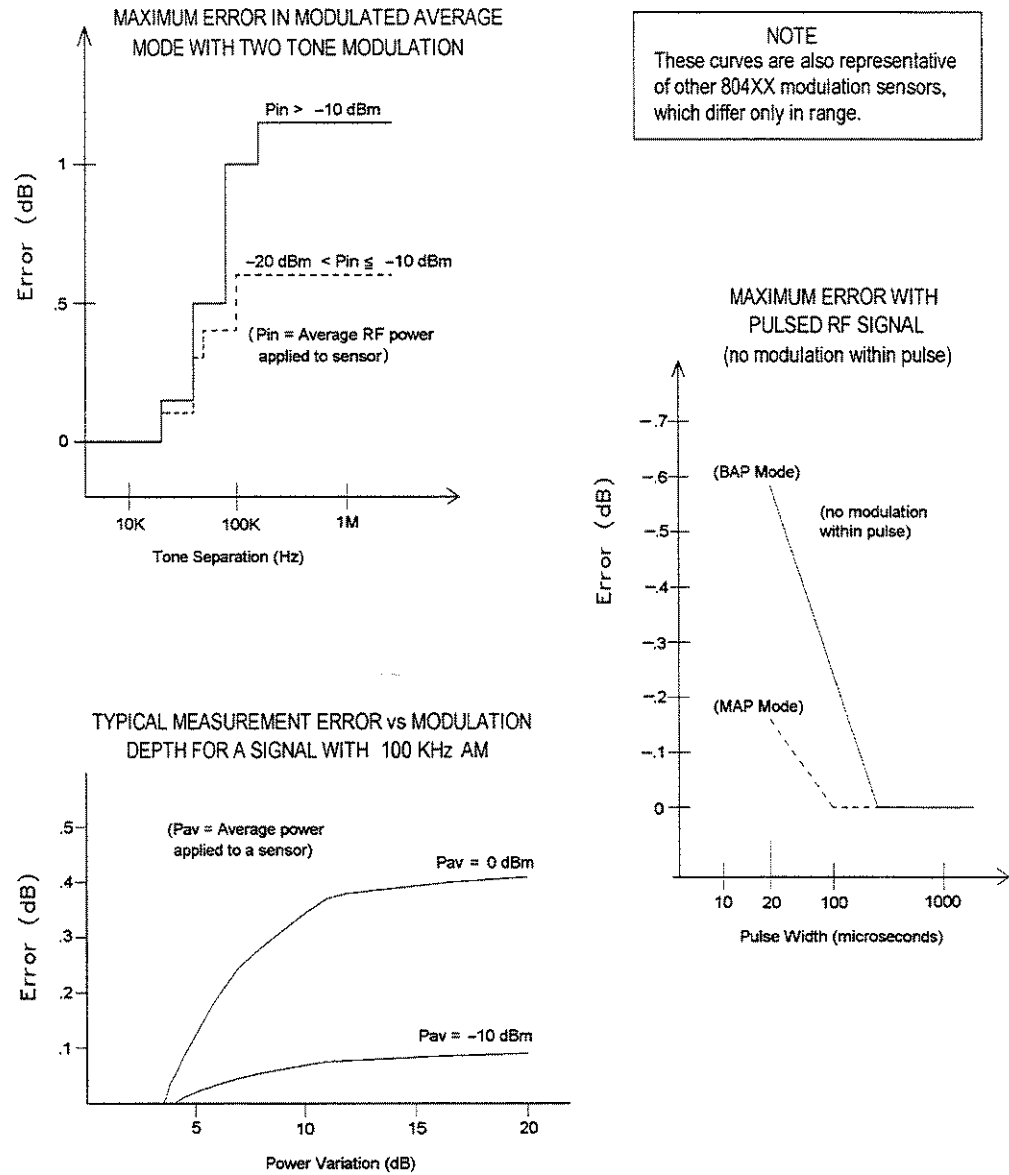

Figure 1-3. 80401 modulation-related uncertainty
Modulation Sensors (-70 to +20 dBm) (see graphs in Figures 1-3 or 1-4 for modulation-induced measurement uncertainty)
- 2 See Figures 1-3 or 1-4 for modulation-related uncertainty.